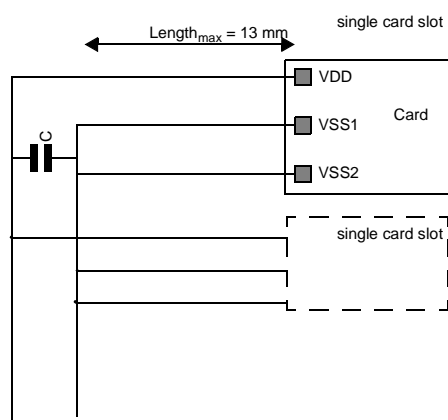

Figure 14: Power supply decoupling
The VSS1, VSS2 and VDD lines supply the card with operating voltage. A decoupling capacitor (C) for current peak buffering has to be foreseen. This capacitor is placed on the bus side corresponding to Figure 14.